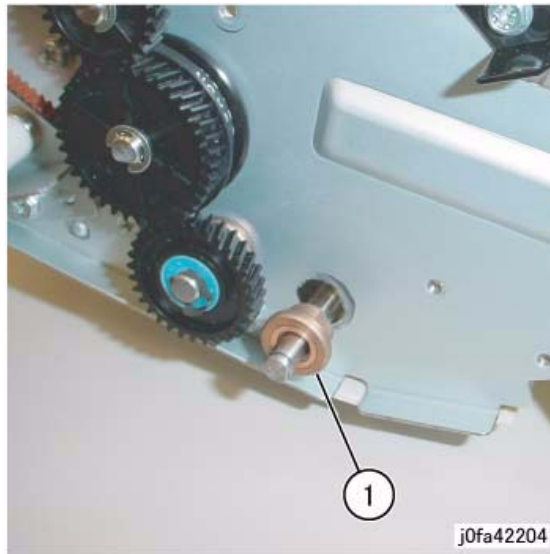

Figure 4 Removing the Bearing
8. Remove the Rear Bearing (Figure 4):